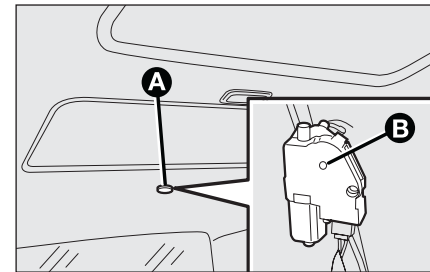

fig. 78
- remove the protection cap **A**-fig. 78 set on the rear part of the internal covering;